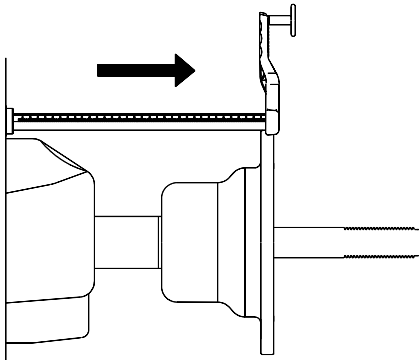

Figure 36
4. Gently pull the SAPE arm OUT until it is fully extended, Figure 36, hold it steady for about 1 second.